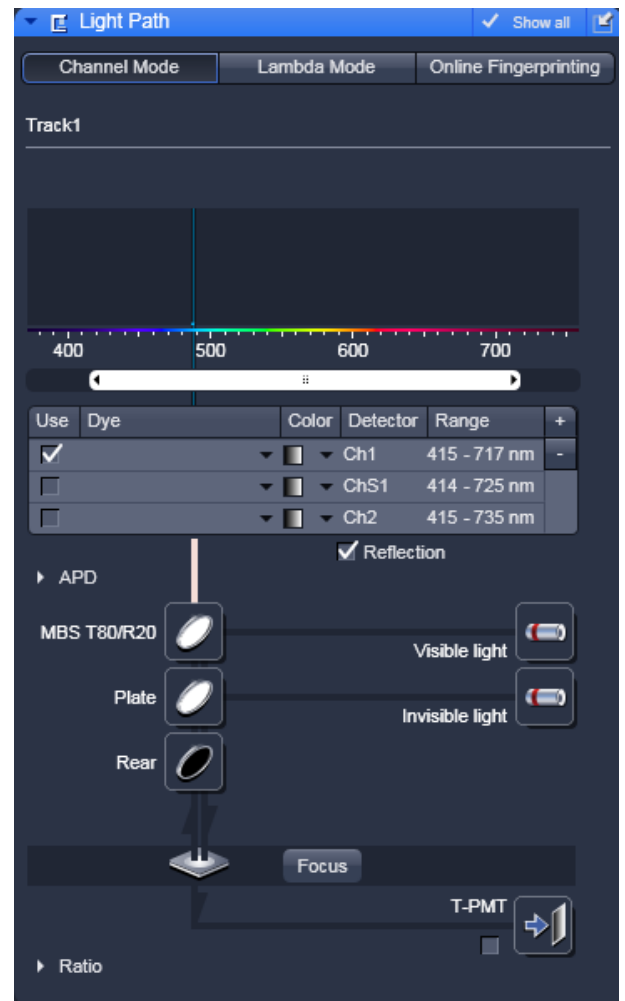

Fig. 9-11 Beam path configuration for finding glass reflection
- Set up a beam path in the LSM **Light Path** tool (Fig. 9-11).